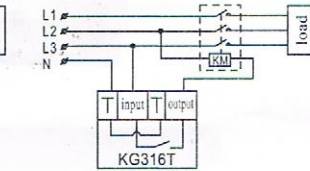

Figure 5 Three-phase working mode (conductor's coil voltage is AC380V)
b) If the control conductor's coil voltage is AC 380V 50Hz, then the mode of connection is shown as in Figure 5.